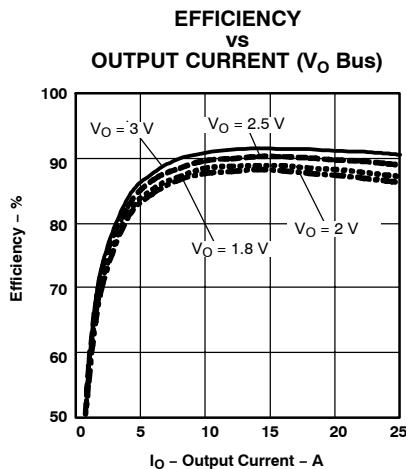
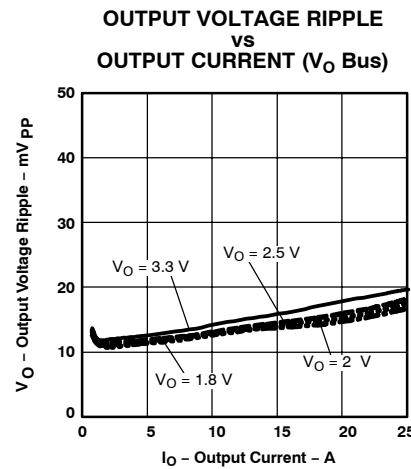
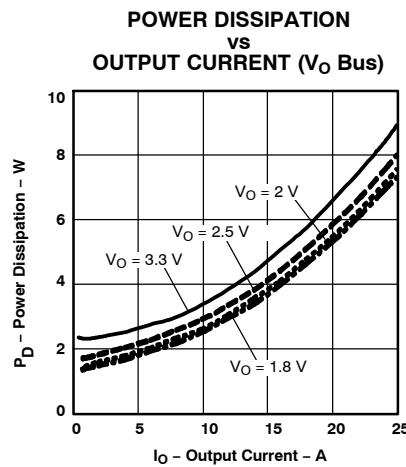

Figure 1.
Figure 2.
Figure 3.
(1) All data listed in Figure 1, Figure 2, and Figure 3 have been developed from actual products tested at 25°C. This data is considered typical data for the dc-dc converter.